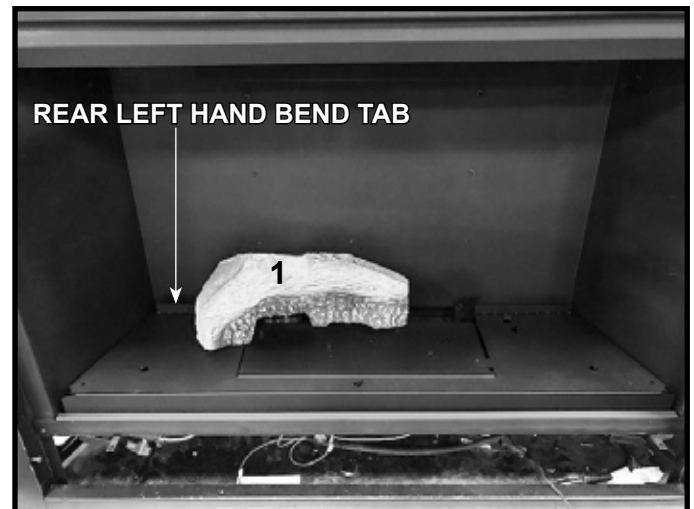

Figure 4. Install Log #1
2. **LOG #1:** Locate and install the Log #1 by installing the right end of the log over the rear log pin. Then rotate the left end of the log until it contacts the rear left hand bend tab. See Figure 4.